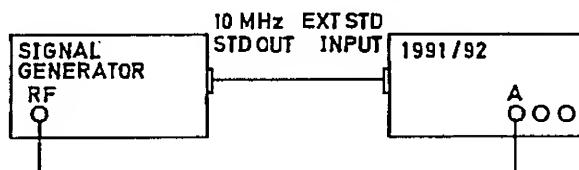

Fig 7.10 Connections for Channel A Input System Adjustment
(2) Select $50\ \Omega$ impedance for channel A.
(3) Press the RESOLUTION ↓ key five times, until 000 is displayed.
- (4) Connect the test equipment as shown in Fig 7.10.
- (5) Set the signal generator output to 100 MHz at a level of 3.0 mV r.m.s.
- (6) Verify that the EXT STD indicator is lit, and that the channel A TRIG indicator is flashing.
- (7) Adjust R192 to obtain the most stable display indication of $100.0 \underline{6} \pm 0.1 \underline{6}$, with the GATE indicator flashing.